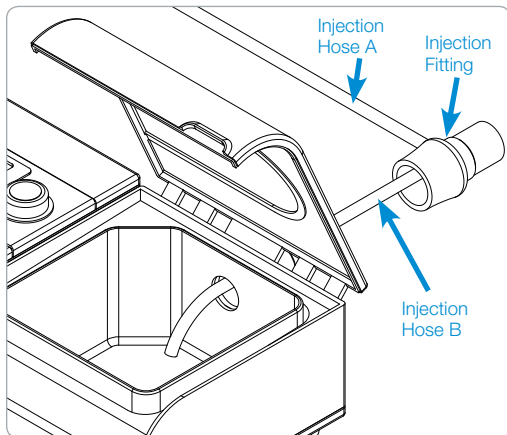

Figure 2. Connect the Injection Fitting
1. Position the Injection Fitting onto the port of your humidifier (where your PAP hose was connected), allowing the smaller Injection Hose B to enter into the reservoir (figure 2). The end of the tubing should be positioned over the heat plate.